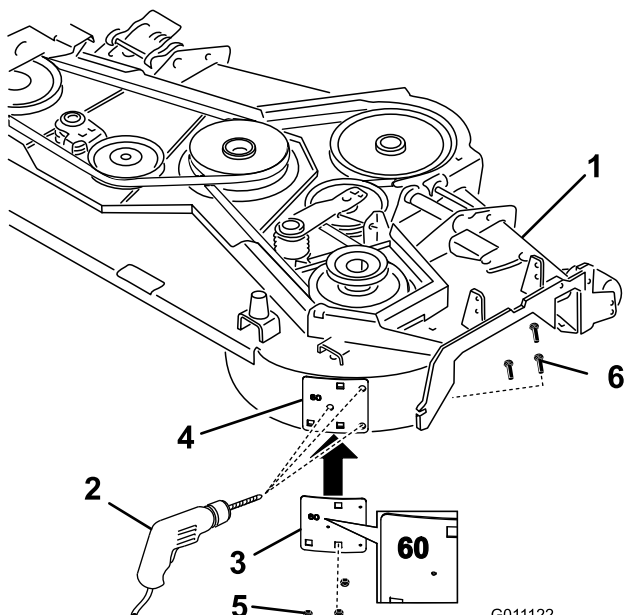

Figure 5
1. Install the metal template, with the number 60 in it, to the mower deck with the previously removed carriage bolts and nuts using the existing holes in the mower deck (Figure 5).
2. Center punch the new mower deck hole locations using the 3 holes in the template (Figure 5).
3. Remove the metal template and drill three, 1/8 inch diameter, pilot holes with a sharp drill bit (Figure 5).
4. Drill three, 13/32 inch diameter, holes into the pilot holes with a sharp drill bit (Figure 5).